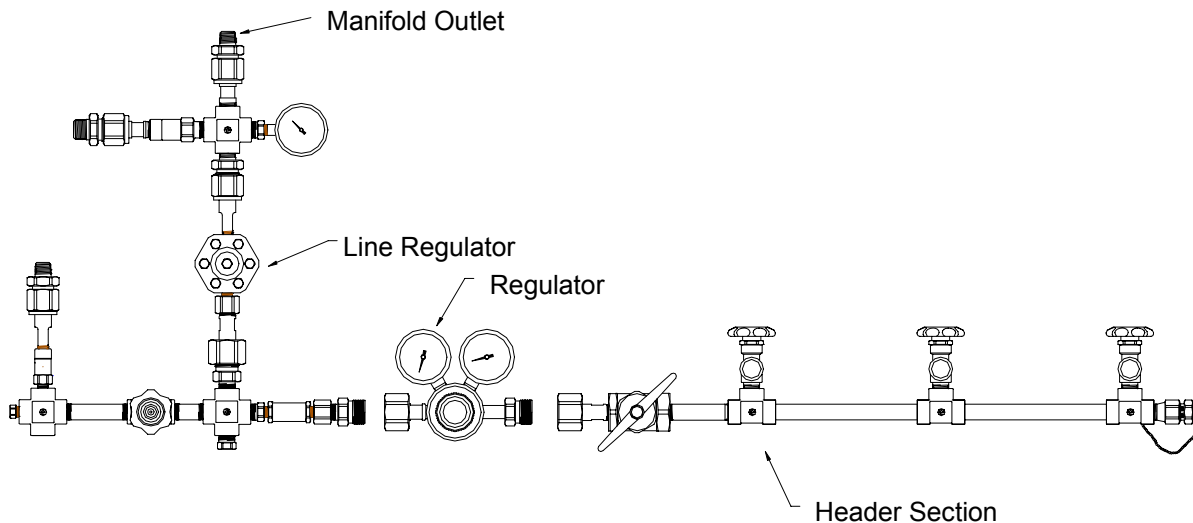

FIGURE 2
1. Assemble the header assembly to the regulator inlet oriented as shown in Figure 2.
1. Determine and mark the vertical center line for installation of the manifold (Figure 2). This centerline will indicate where the vertical portion of the manifold will be located.